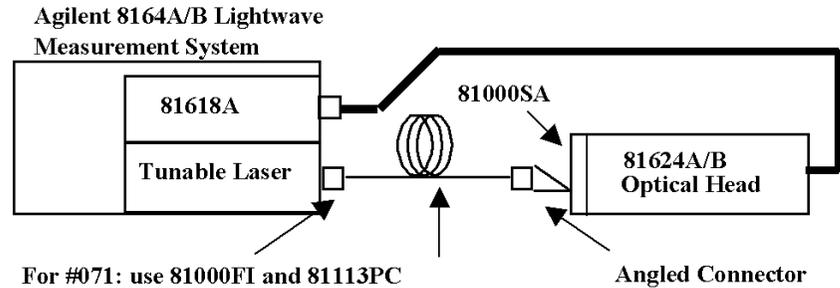

Figure 29 Test Setup for Power Flatness Tests - Low SSE output
- 1 Set up the equipment as shown in Figure 29: